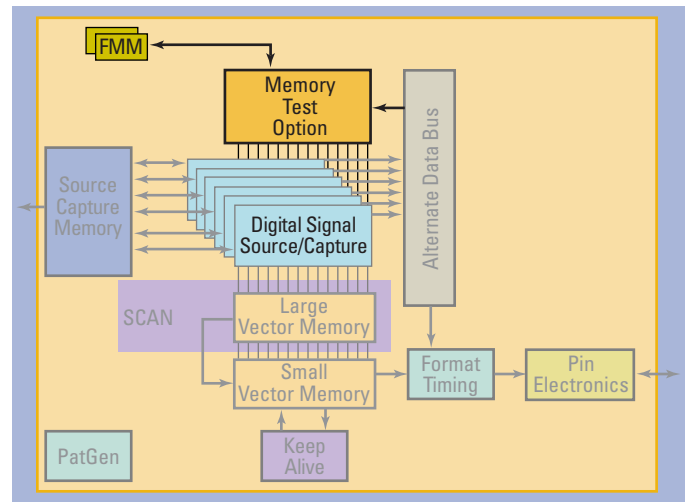

Figure 5-23: Memory test option
The Memory Test Option (MTO) is an on-board subsystem that generates address and data for testing of embedded memory functions at speeds up to 100 MHz. (Refer to Figures 5-23 and 5-24.) Each 48-pin digital instrument contains one (1) MTO subsystem, which can operate independently or synchronized with other MTO/instruments. Virtual MTO instruments can be configured that span multiple boards. Multiple MTO instruments can operate simultaneously. The MTO operates with a 1K or 2K vector instruction depth, depending on the overall operating mode of the Integra FLEX test system. Redundancy Analysis software is available which runs under the Auto-Smart DSP system. A summary of the features of the MTO are listed in Table 5-10.